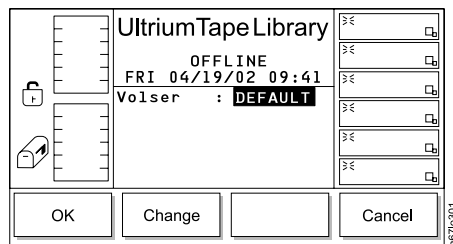

Figure 361. Media Dialog
- Press the button below the **MEDIA** softkey. The Media Dialog displays the Volser field (see Figure 361). Available settings are: